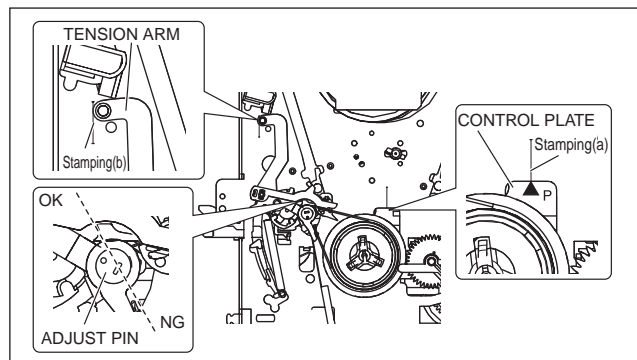

Fig. 3-2-1a Switching point
- (1) Play back the back tension cassette gauge (A).
- (2) Check that the indicated value on the left side gauge is within the specified value (G).
- (3) If the indicated value is not within the specified value (G), perform the adjustment in a following procedure. (See Fig. 3-2-1a)